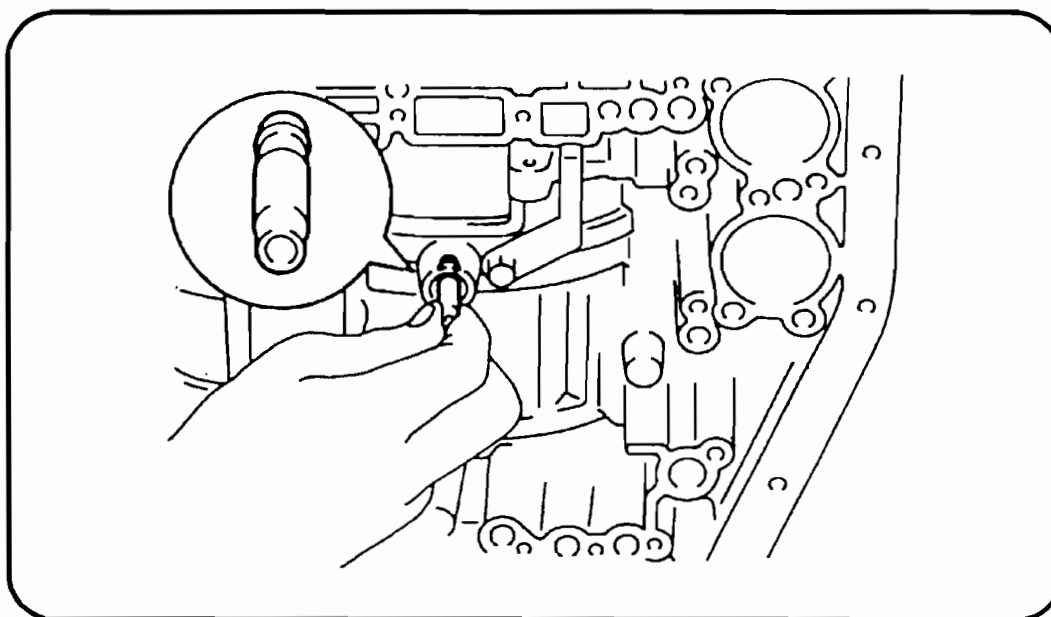

FIGURE 1
1. THE 1-2 SHIFT PROBLEM MAY BE CAUSED BY A CROSS LEAK BETWEEN THE VALVE BODY AND CASE (FIGURE 1).